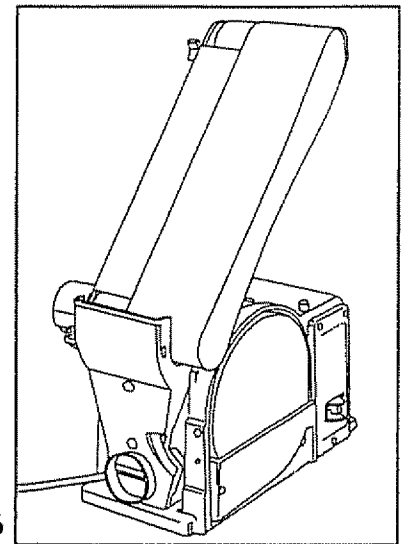

Fig. 6
■ Installing the sanding belt (see figure 6)